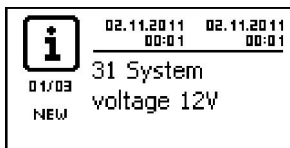
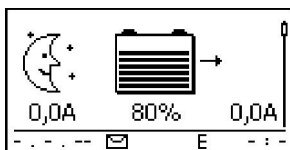

Fig. 11 Event message with the detected system voltage (in the example: 12 V)
Fig. 12 Basic setting of the status display
2. ➞ Switch on the external battery fuse: Insert the fuse insert into the fuse holder (safety fuse) or switch on the DC line circuit breaker. The controller automatically starts operation and, after a few seconds, displays the detected system voltage (= battery voltage) in an event message (Fig. 11).
3. ➞ Note the system voltage displayed in Fig. 11.
4. ➞ Press 'ESC' to confirm the event message. The basic setting display appears (Fig. 12).
6. ➞ If Fig. 11 and Fig. 12 are not displayed then check the installation and if necessary correct the error using section 15.